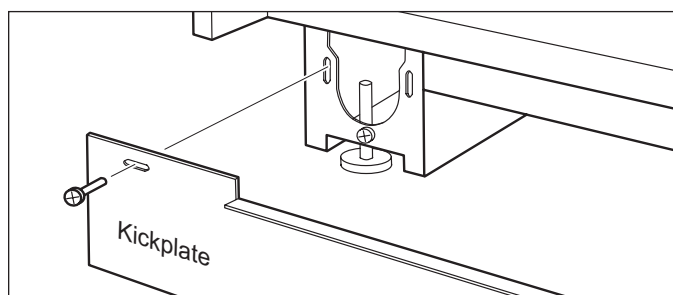

Figure 2-3. Kickplate Removal
- To level unit, first remove kickplate (See Figure 2-3).